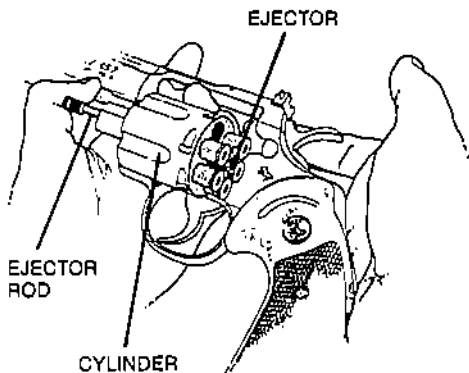

FIGURE 3—EJECTION
3. Push ejector rod backwards forcing out all live rounds or empty cases (See Figure 3). When they are clear of the chambers, remove from revolver. Allow ejector rod to return forward under its spring action.